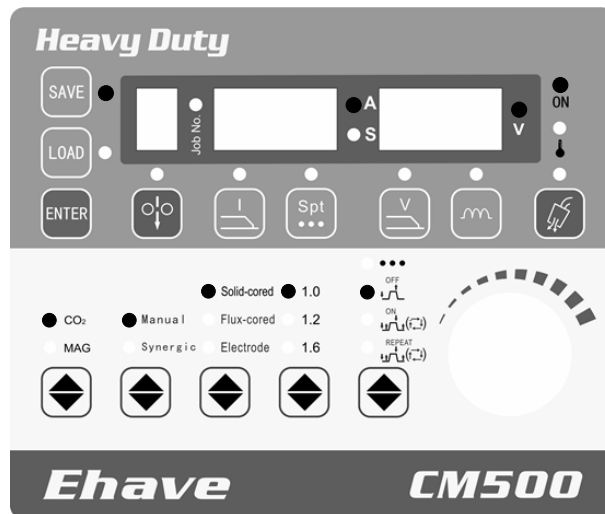

Figure 3-21 Saving parameter settings
3. Use the knob to select a channel number (0 - 9). See Figure 3-21.